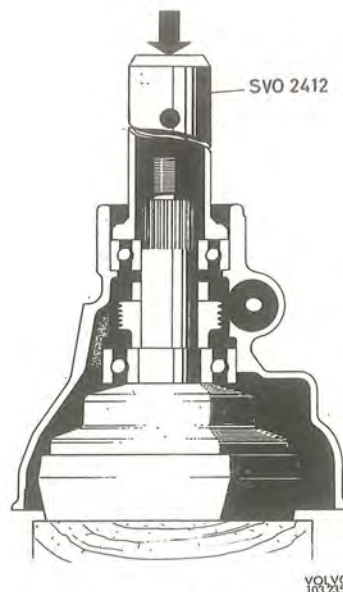

Fig. 4-50. Fitting the output shaft
3. Place a wooden block under the output as support. Fit the speedometer driving gear and spacer. Press on the rear casing with drift SVO 2412, see Fig. 4-50.